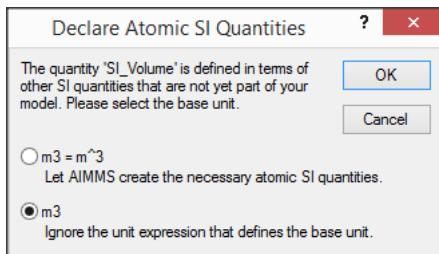

Figure 6.2: The **Ignore Unit Expression** dialog box
- ▶ select the second option ‘m³’ as in Figure 6.2, and